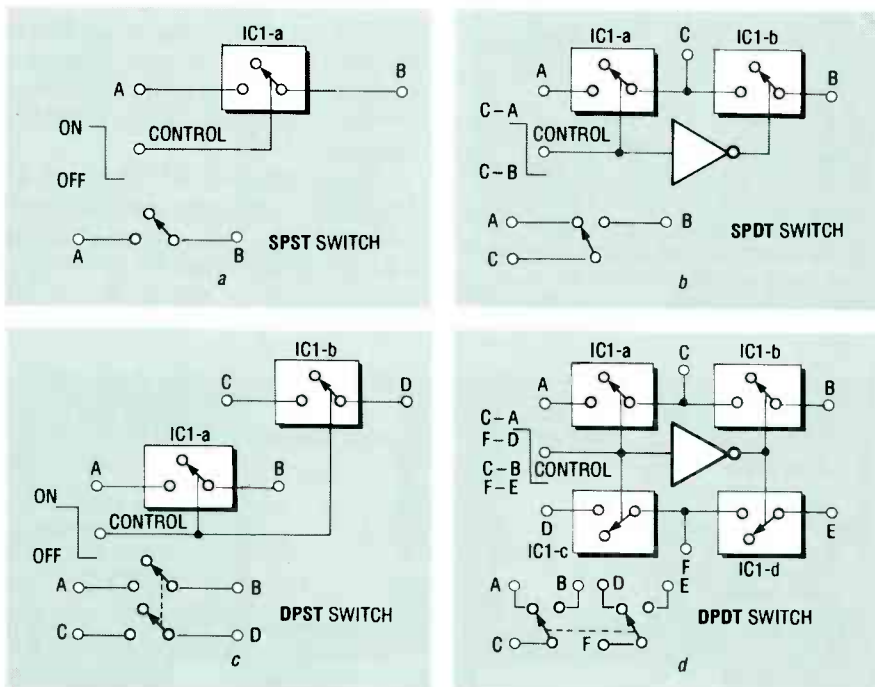

FIG. 10—IMPLEMENTATION OF THE FOUR BASIC SWITCHING FUNCTIONS (a through d) using the 4066B.
3. Figure 10 shows how to hook up a 4066B (or 4016B) to implement either SPST, SPDT, DPST, or DPDT switches. Those switching functions can be expanded or combined.